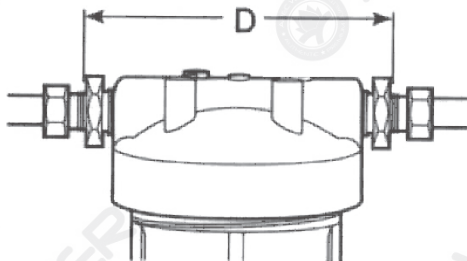

Fig.5
2. Remove the nut and brass ferrule from both adapter fittings and set aside. Using a tape measure or ruler, measure the distance "D" as shown below. The distance to cut will vary for the Single, Duo and Trio unit. **See Fig.5.**